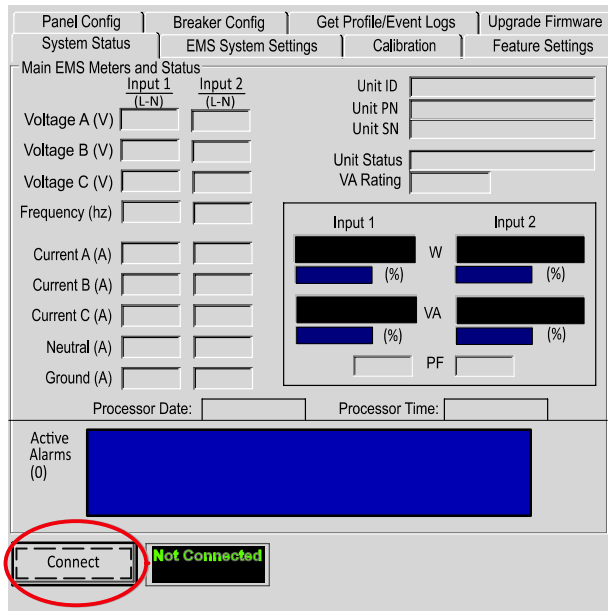

Figure 14. System Status Page (Not Connected)
3. Click **Start > Programs > EATON > EMS Configuration Tool** to open the configuration tool. The System Status page displays, as shown in Figure 14.